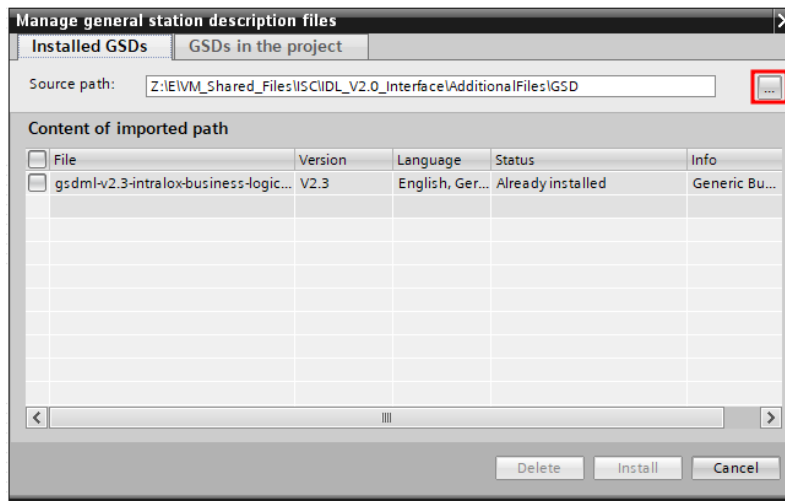

Figure 2: Manage GSD Files > Browse Button
5. A window will open “Manage general station description files” click on the ellipse button, Figure 2